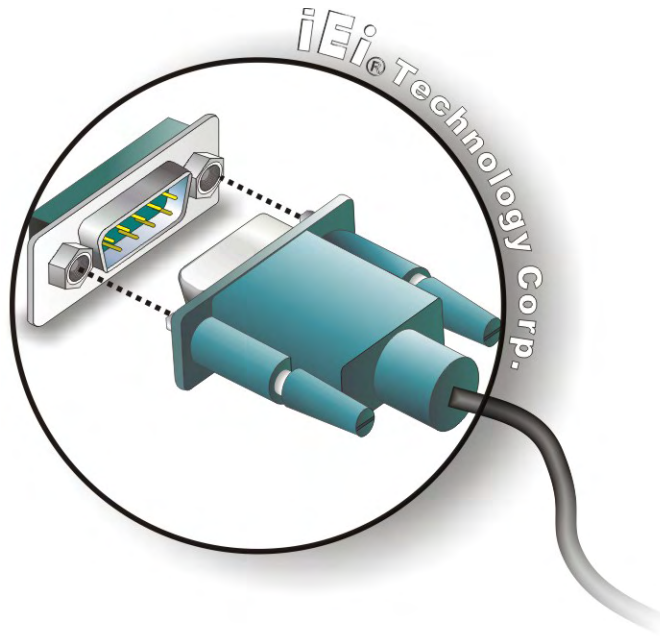

Figure 4-14: Serial Device Connector
**Step 2: Insert the serial connector.** Insert the DB-9 connector of a serial device into the DB-9 connector on the external peripheral interface. See Figure 4-14.